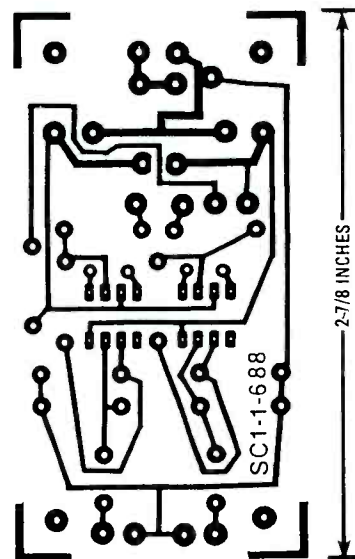

Fig. 2. Actual-size template for the CD Player Headphone Amplifier's printed-circuit board.
Fig. 2. The signal picked up by antenna L1 is fed to the inverting input of U1-a (which provides a gain of about 10). The output of U1-a is fed to the non-inverting input of U1-b (which again boosts the signal to provide a gain of about 120 at 5 kHz).
type with an impedance in the 8- to 16-ohm range. Refer to Fig. 2 (the schematic diagram) and Fig. 4 (the parts-placement diagram) when connecting R11, S1, S2, B1, and speaker SPKR1 to the circuit.
board (PCB), measuring  $2\frac{7}{8} \times 1\frac{1}{2}$  inches and housed in an enclosure measuring  $5\frac{1}{4} \times 2\frac{3}{4} \times 2$  inches. A full-scale template of the CD Player Headphone Amplifier's printed-circuit board is shown in Fig. 2.
**Probe Checkout.** When all of the circuit components are wired, but prior to installing the circuit in its case, stop to check out the operation of your probe. Figure 2 shows a simple test circuit that allows you to test the probe by varying  $V_{in}$ . Just about any value potentiometer can be used in the circuit. As you adjust the wiper of the potentiometer, use your voltmeter to verify that the red and green LED's light at the appropriate voltages of  $V_{in}$ , as described above. Test the probe in both the CMOS and TTL positions of S1.